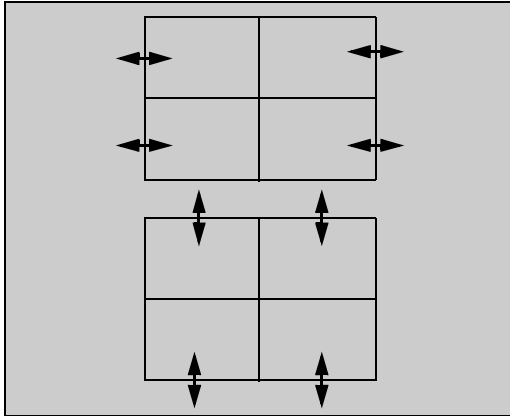

Figure 44. **H & V size adjustment**
28. Adjust so that the line on the border closes to the screen frame at top, bottom, left and right (see figure 44)